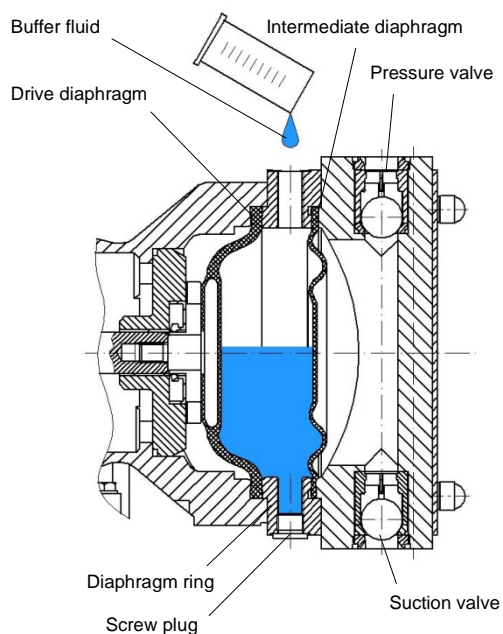

Fig. 36
- Move the drive diaphragm to the rear position by turning the fan blade of the drive motor (see Fig. 36).